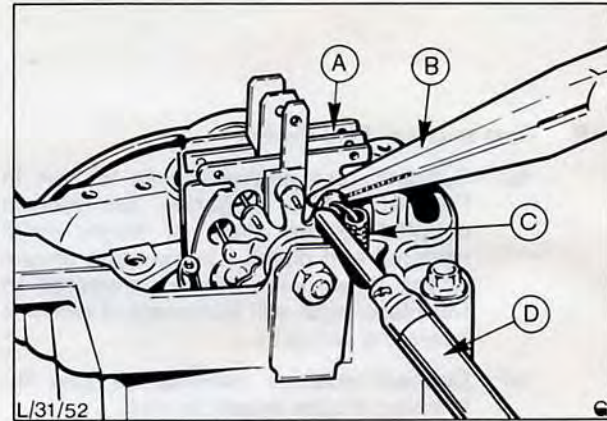

Fig. 42. Unsoldering the stator connections from the rectifier (diode) pack
7. Unsolder stator connections, 'C' in Fig. 42, from rectifier (diode) pack 'A' loosen locknut and remove pack. When unsoldering the stator connections from the rectifier (diode) pack, use a pair of pliers 'B' as a heat sink to prevent the diode terminal pins and hence the diodes becoming excessively heated. Overheating can cause diode failure. Remove diode pack by removing securing nut.